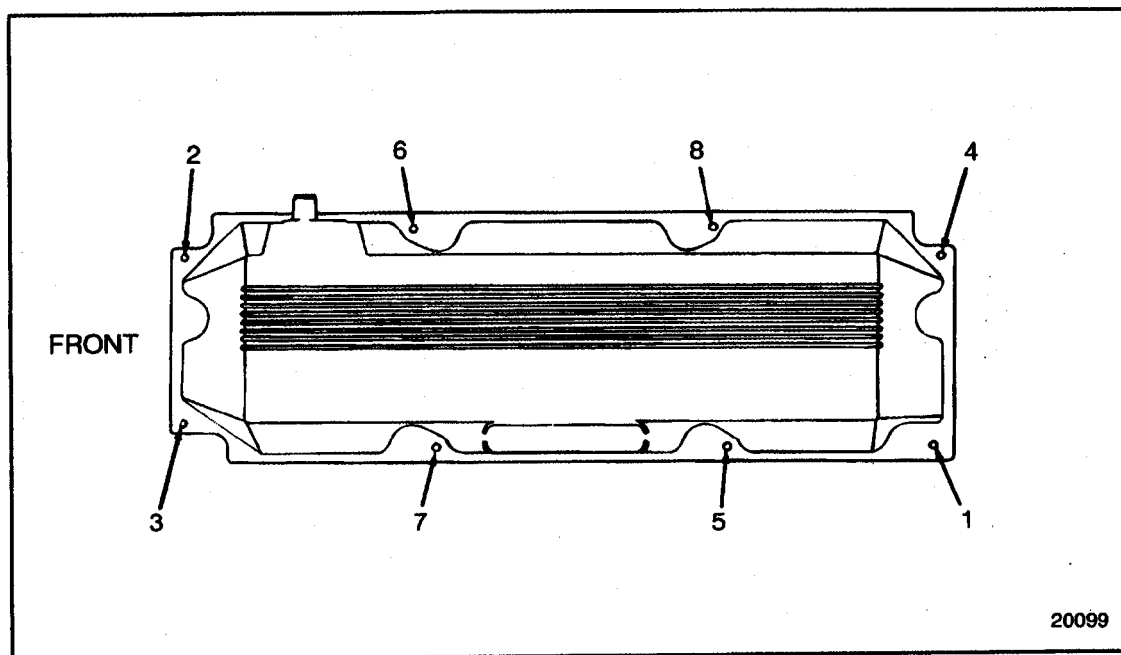

Figure 1-110 **Rocker Cover Bolt Tightening Sequence**
7. Install the rocker cover cap to the base. Install the eight screws that attach the cap to the base, and torque to 22-25 N·m (16-18 lb·ft) using the torque sequence. See Figure 1-110. Tighten the bolts in two stages, using half-torque value first. The same procedure applies to the intermediate cover installation.